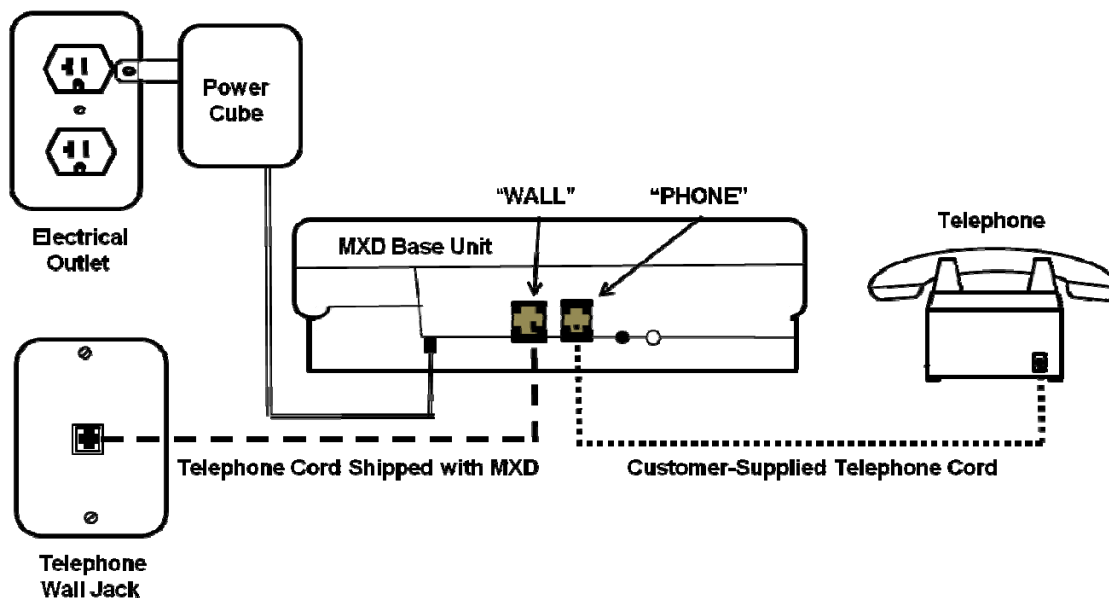

Figure 9. MXD Connection to Voice over IP (VoIP) Telephone Service
5. After connection to VoIP has been achieved, continue with steps 3 - 7 of the System Setup for Locations with Plain Old Telephone Service (POTS). See Figure 9 below.